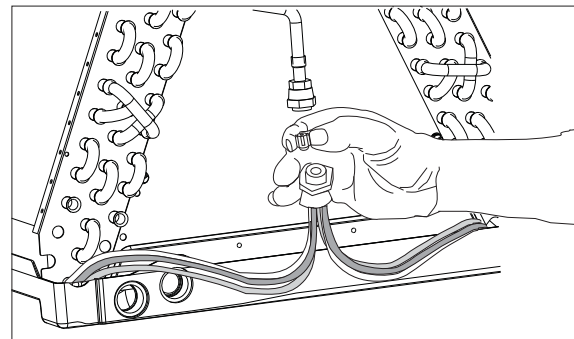

Figure 11. Restrictor Insertion in Distributor Body
6. Insert the new orifice in the distributor body, rounded end down. (**See Figure 11**)